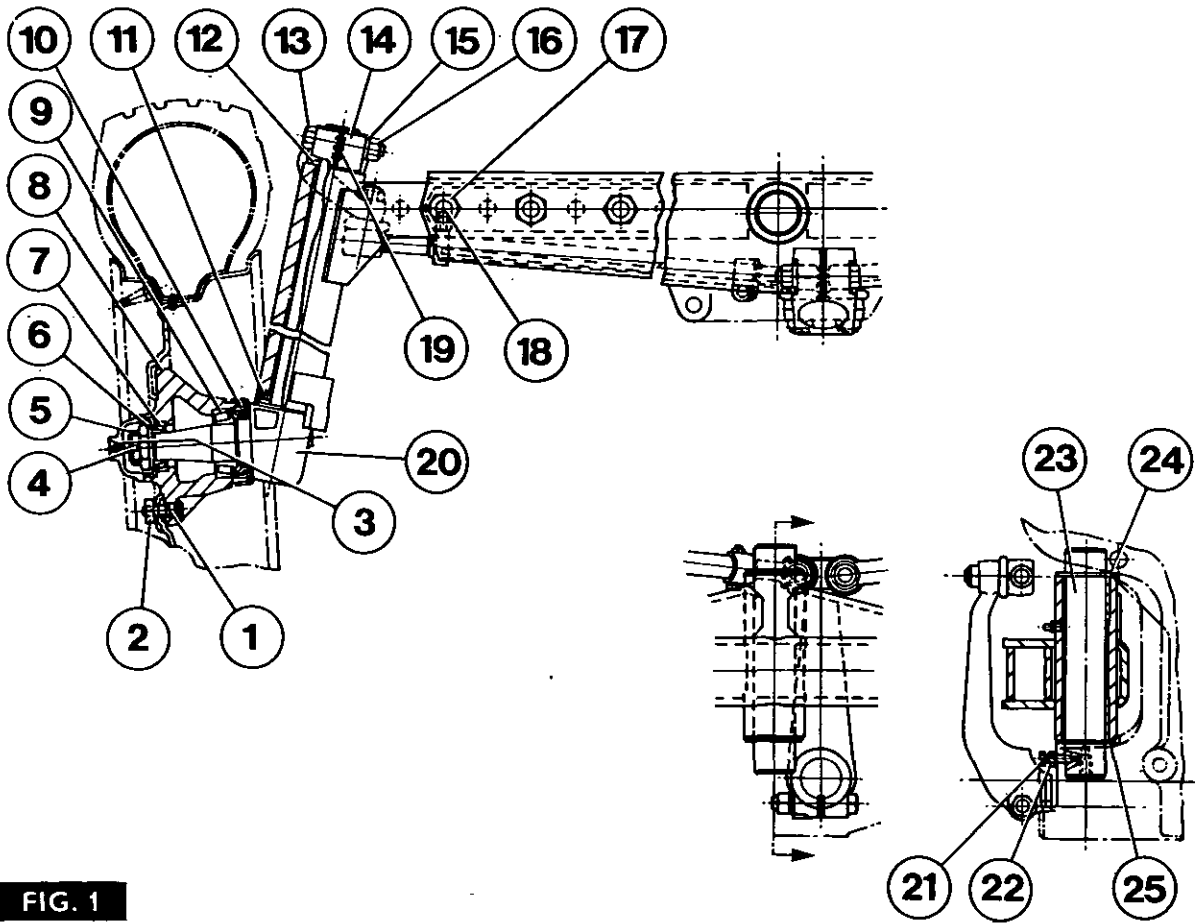

FIG. 1
2. Fig. 1. Remove the hub cap (3).
3. Straighten out and remove the split pin (4).
4. Remove the slotted nut (5) and tab located washer (6).
5. Lift the hub (8) complete with bearings (7, 9) and seal (10), from the axle spindle.
6. Remove the outer bearing cone (7) from the hub.
7. Drive out the inner bearing cone (9) from the hub, this will also remove the seal (10).